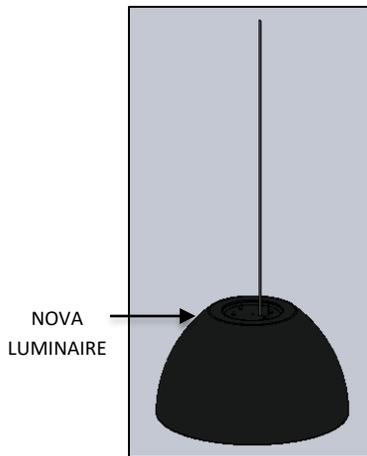

FIG.2 NOVA LUMINAIRE
1. NOVA LUMINAIRE with CORD attached. (Pre-assembled as shown in FIG. 2)